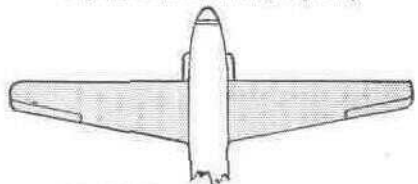

Fig. 19. Taper on trailing edge only
- (e) Taper on trailing edge only (Fig. 19) as in the Douglas "Boston".